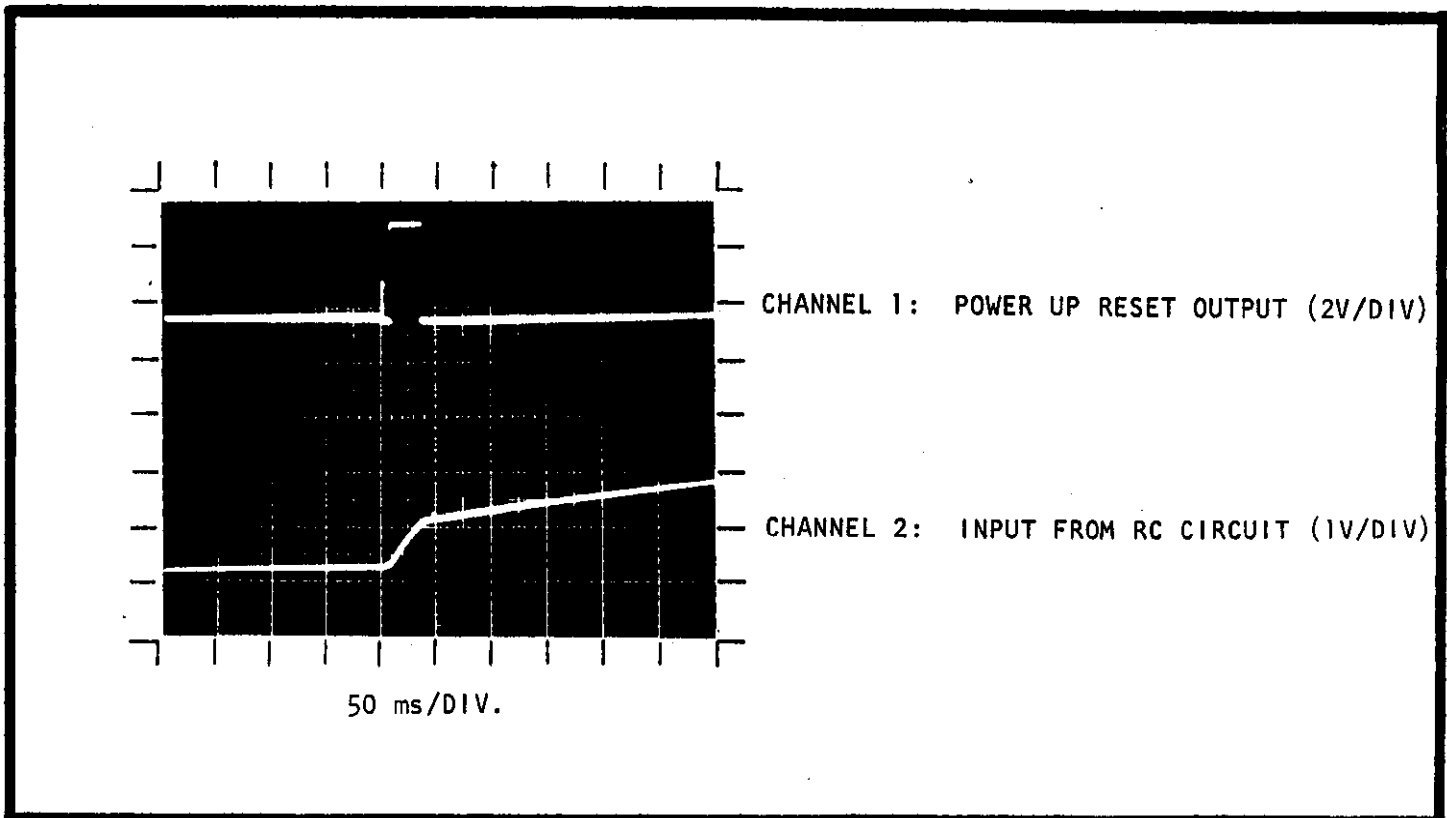

FIGURE 20. Trace For Test #15.
6. Verify a Power-Up Reset signal on Channel 1 as shown in Figure 20.